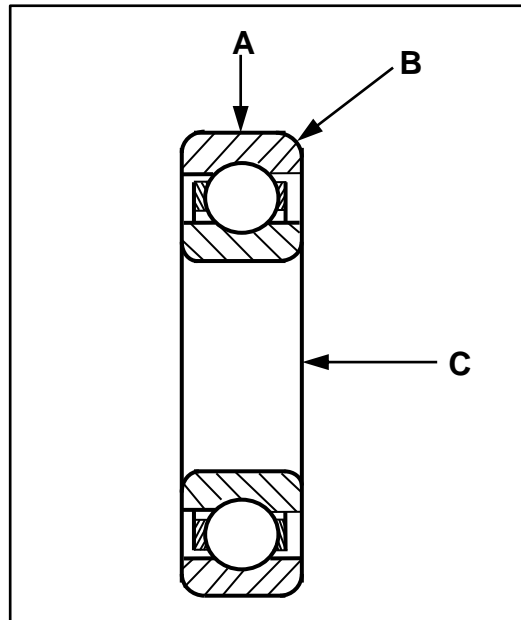

FIGURE 1
- 4.2 FIGURE 1 below shows a diagram of a bearing. Identify the bearing loads labeled A, B and C. Write only the answer next to the LETTER (A–C) in the ANSWER BOOK.